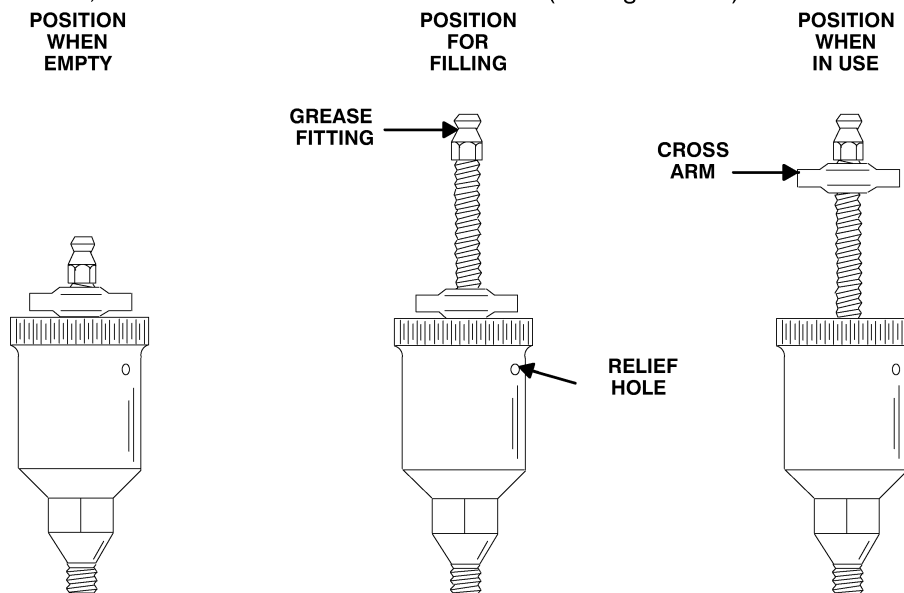

Figure E-4. Automatic Lubricating Grease Cup
Fill the grease cup (18) through the grease fitting with No. 2 lithium base grease until grease escapes from the relief hole. Turn the grease cup arm counterclockwise until it is at the top of the stem; this will release the spring to apply grease to the seal (see Figure E-4).